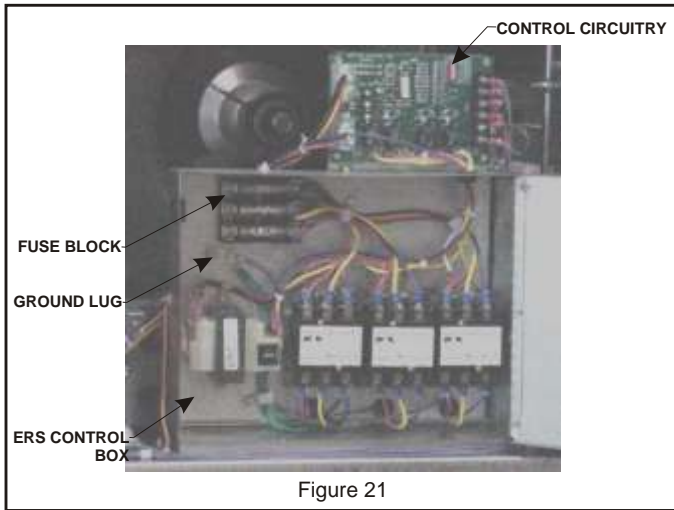

Figure 21
15. Connect line voltage power to ERS unit from ERS field provided or rooftop unit disconnect switch (disconnect must be properly sized). Then connect line voltage from disconnect switch through ERS knockout on middle post to control box per the wiring diagram. See **Figure 21**.